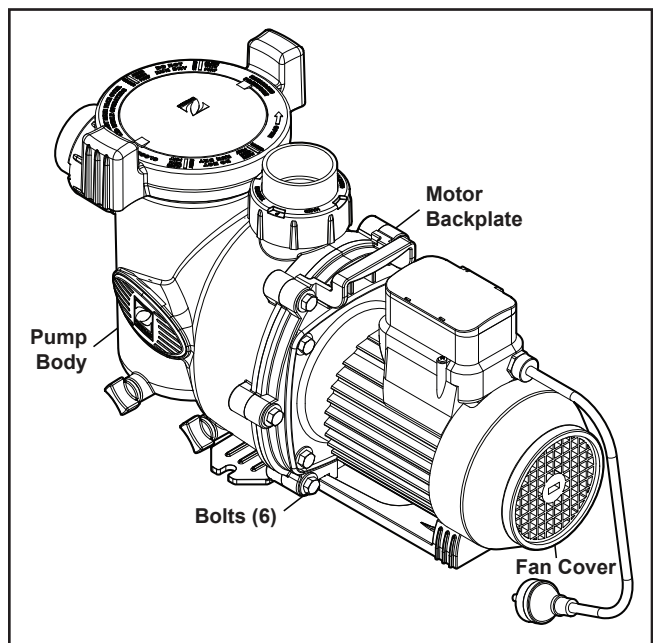

Figure 13. Remove the Pump Housing
3. Using a 9/16" (14mm) wrench, loosen the bolts connecting the pump body to the backplate. See Figure 13.